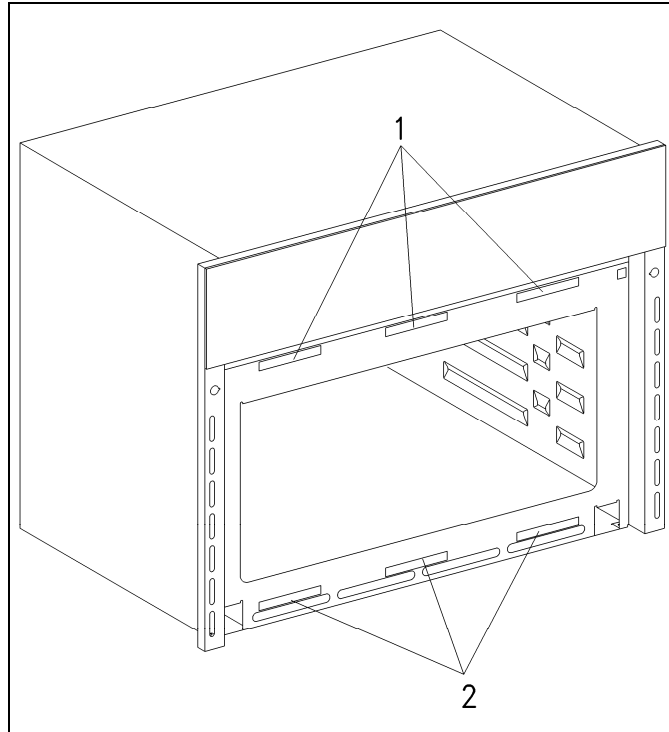

Figure 011-7: Magnetic Strips
5. Place 3 brown magnetic strips (0.06") along the upper edge of the oven cavity (Figure 011-7, Item 1).
6. Place 3 blue magnetic strips (0.03") along the lower edge of the oven cavity (Figure 011-7, Item 2).